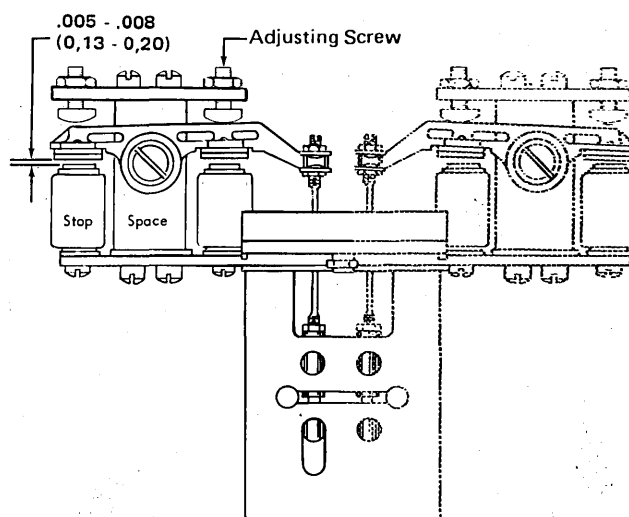

Figure 4-64. Space-Stop Magnet Energized
5. With the space-stop magnet energized, adjust the backstop screw nearest the operating rod for .005 to .008 in. (0, 13 to 0, 20 mm) clearance (preferably .005 in. (0, 13 mm)) between the armature and the stop-magnet cores (Figure 4-64).